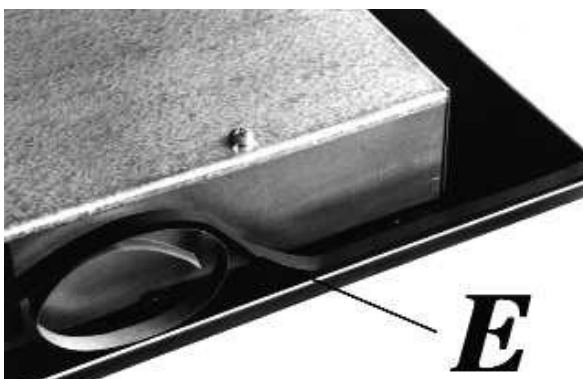

FIG. 10
- Turn the hob upside down and place the adhesive side of the seal "E" (fig. 10) correctly under the edge of the hob so that the outer edge of the seal perfectly matches the outer perimeter edge of the glass. The ends of the strips must match without overlapping.